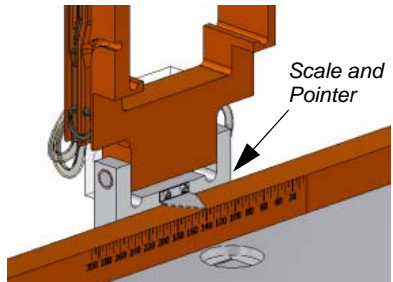

Figure 10. Adjust stroke length using scale and pointer as a guide
7. Push the carriage to the desired stroke length using the scale plate and pointer as a guide (Figure 10).